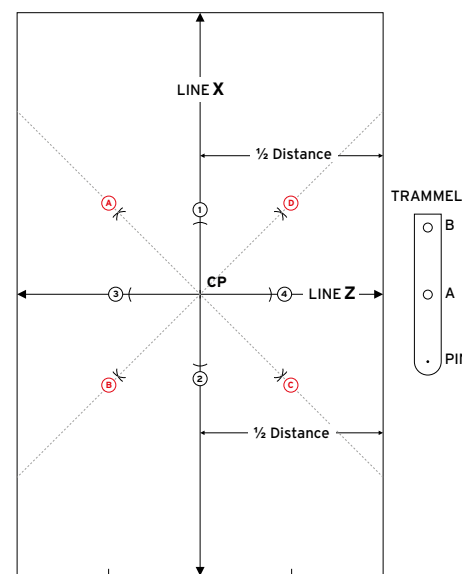

Figure 3
- > Find the centre of line X and mark the Centre Point (CP).
5.6.3 Setting out and installation for diagonal tiling (Refer to Fig 3)
- > Mark a centre line as described earlier (Fig 3).